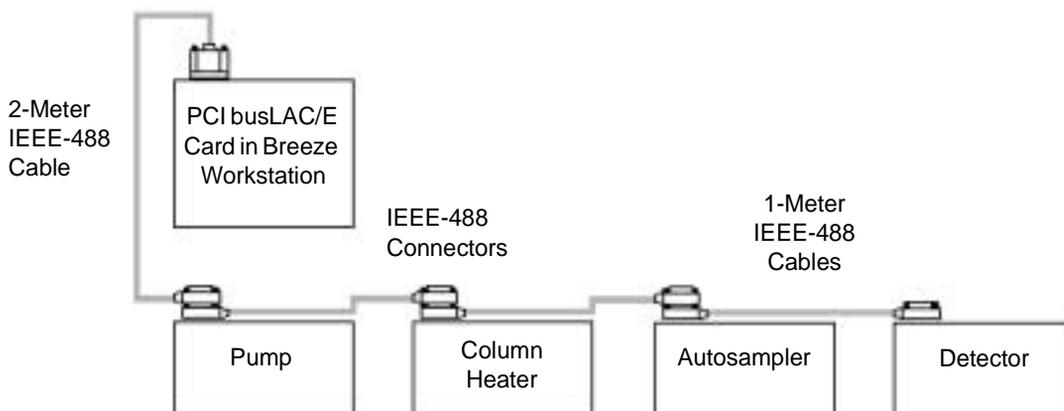

Figure 2-2 IEEE-488 Connection Example
Note: The steps in this procedure assume that you have not electronically connected any of the other Breeze system IEEE-488 devices (the autosampler or detector, for example) to the Breeze workstation. If you have already connected other devices to the Breeze workstation, connect the 1500 Series Pump to the existing chain of devices (see Figure 2-2). The order in which you connect IEEE-488 devices is not important.
1. Connect the single-receptacle end of the 2-meter IEEE-488 cable to the PCI busLAC/E card on the Breeze workstation. See Figure 2-2.